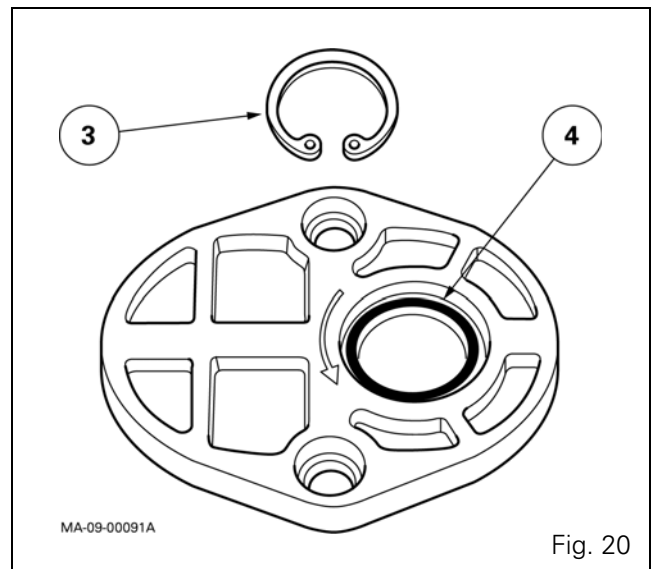
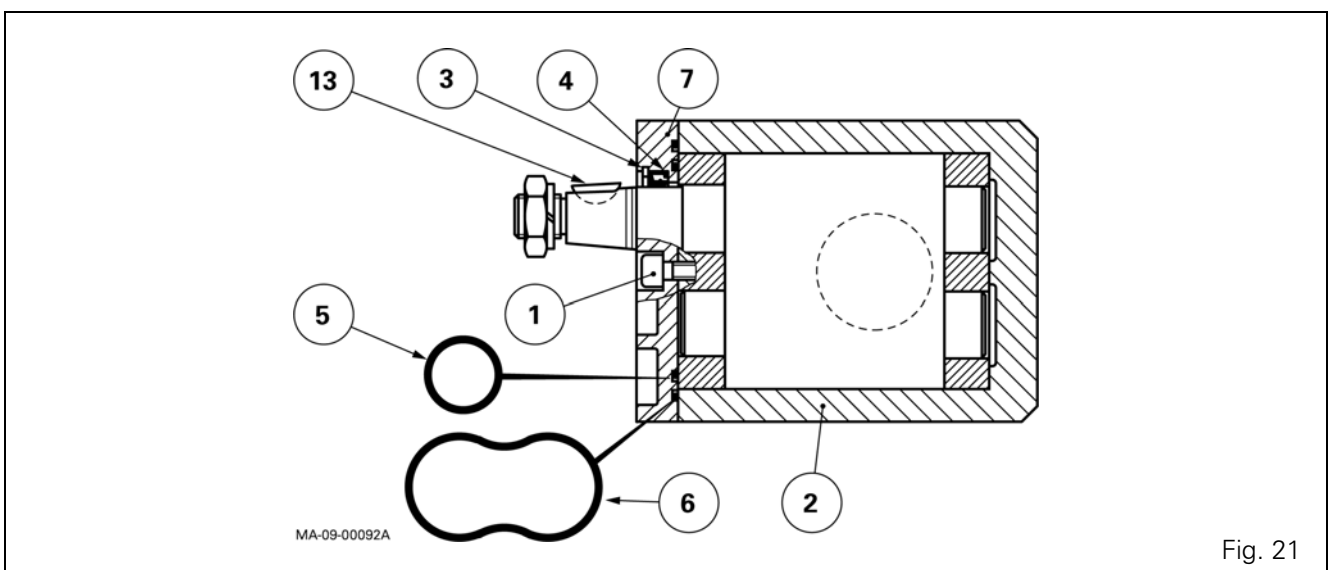

Fig. 20
Fig. 21
38. Remove (Fig. 20, Fig. 21):
- the circlip (3);
- the seal (4);
- the "O" rings (5) (6) on the cover plate (7).
39. Carefully fit the seal (4) (Fig. 20) using a suitable fixture. Lubricate its lip (with miscible grease).